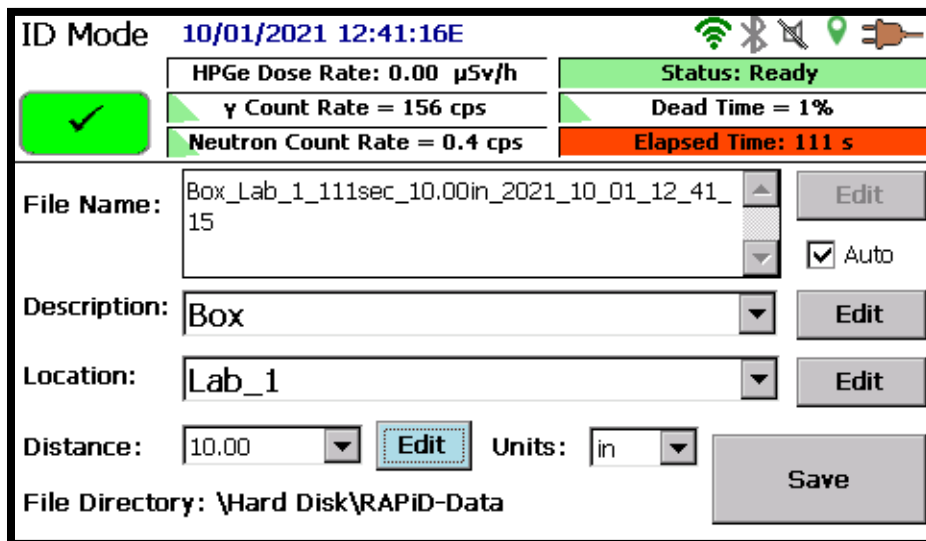

Figure 129. RAPiD ID Mode Save
- **Save** – data collection will be concluded, and the screen will change to that seen in Figure 129.